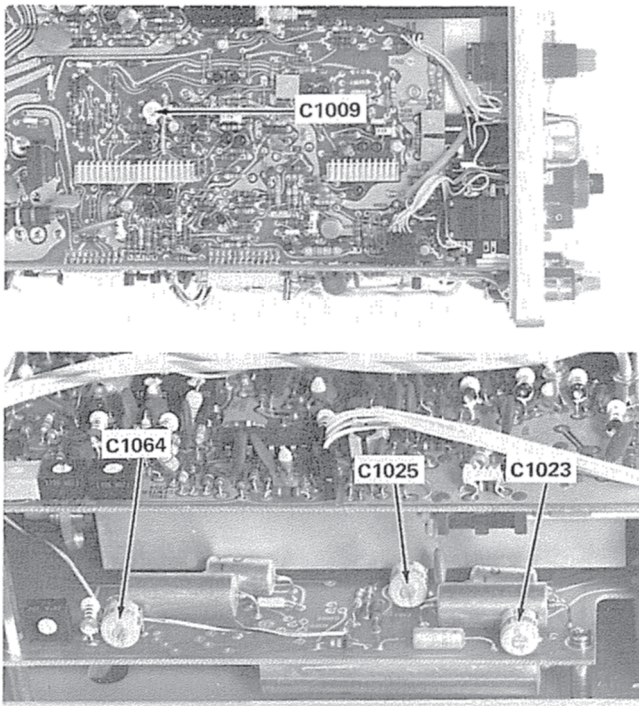

Fig. 5-25. Location of A and B Sweep timing adjustments.
d. ADJUST—C1064 (see Fig. 5-25) with a low-capacitance screwdriver, for 1 time marker/division.
g. ADJUST—C1023 (see Fig. 5-25) with a low-capacitance screwdriver, for 1 time marker/division.
- d. ADJUST—C1025 (see Fig. 5-25) with a low-capacitance screwdriver, for 1 time marker/division.
- n. ADJUST—C1009 (see Fig. 5-25) with a low-capacitance screwdriver for 1 time marker/division.
<http://www.localdhw.com> Fig. 5-25. Location of A and B Sweep timing adjustments.